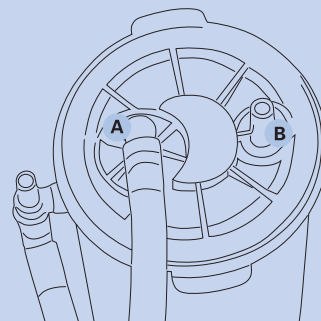

Fig. 14
5. Connect the patient connection of the disposable liner 'OneWay' (fig. 14 (B)) to the suction tube. Ensure that the tube is firmly attached.